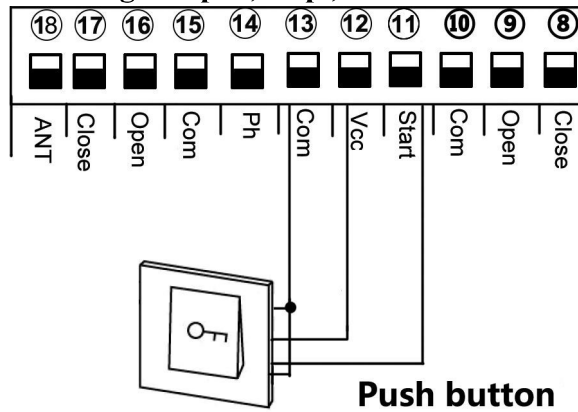

Fig 11
F. Connect to start terminal. (Please see Fig 11)